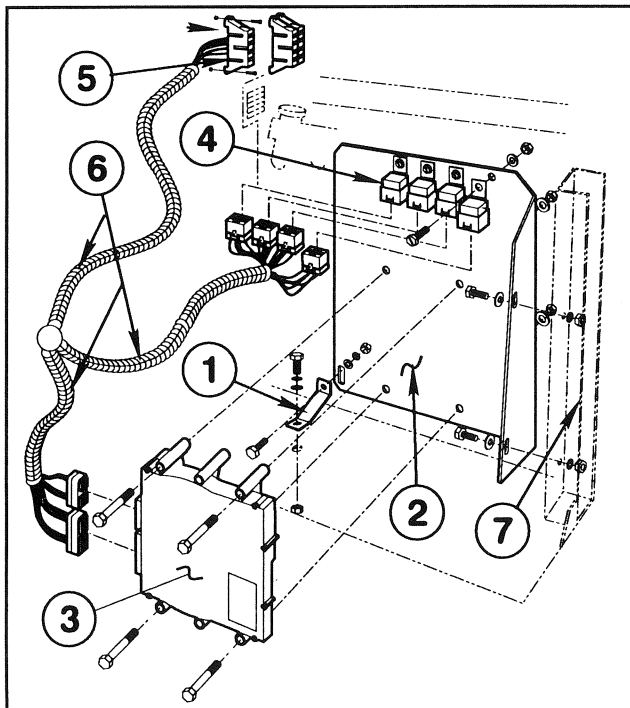

FIG. 12
3. Mount the Support Bracket to the ECU Bracket using (1) 5/16 NC x 3/4" cap screw, flat washer, lock washer, and hex nut. See FIG. 12
4. Mount ECU to Bracket using four (4) 1/4 NC x 2-1/2" hex hd cap screws, lock washers and hex nuts. See FIG. 12
5. Mount four (4) Relays using 1/4 NC x 5/8" hex hd cap screws, lock washers and hex nuts. See FIG. 12
6. Remove fasteners securing Vehicle Fuse Block(s). Slide Sonic Boom™ Fuse Block together with Vehicle Fuse Block(s) and remount all Fuse Blocks to Vehicle using fasteners previously removed. See FIG. 12
8. Mount ECU Bracket to Upright Post, using two (2) 5/16 NC x 3/4" cap screws, flat washers, lock washers, and hex nuts. See FIG. 12
10. Secure Support Bracket to floor, using a 5/16 NC x 3/4" cap screw, flat washer, lock washer, and hex nut. See FIG. 12